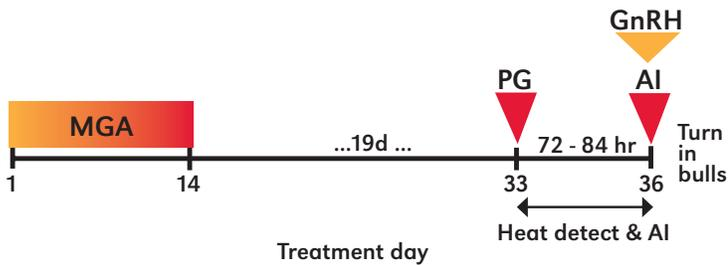

Figure 6. MGA-PG HD & TAI.
**MGA-PG HD and TAI** (Figure 6). This protocol is very similar to the MGA-PG HD protocol. MGA is fed at 0.5 mg/head/day for 14 days. MGA doesn't allow heifers to cycle. Heifers will exhibit estrus two to five days after withdrawal of the MGA.